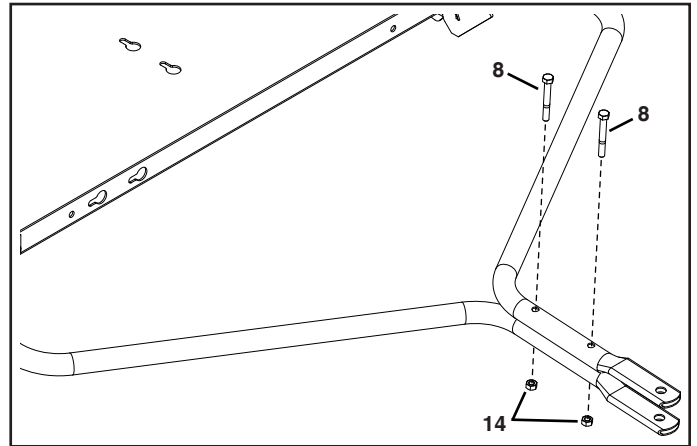

FIGURE 3
7. Secure the ends of the hitch tubes together using two 5/16 x 2-1/2" hex bolts (8) and 5/16" nylock nuts (14). **Do not tighten yet.** See figure 3.